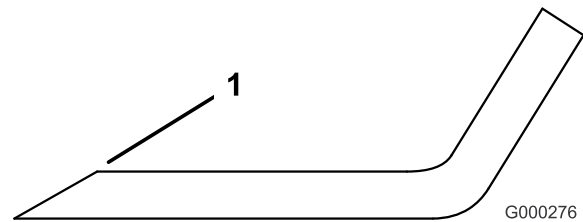

Figure 41
5. Examine the cutting edges of all blades. Sharpen the cutting edges if they are dull or nicked. Sharpen only the top side of the cutting edge and maintain the original cutting angle to ensure sharpness (Figure 41). The blade remain balanced if the same amount of metal is removed from both cutting edges.